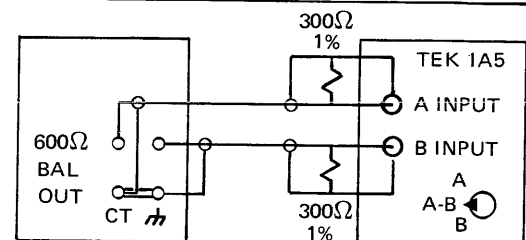

Figure 2-1. Test Set-up for 600Ω BAL
13. Connect the 600Ω balanced output connectors to a differential input oscilloscope (Tektronix 1A5 plug-in or equivalent) as shown in Figure 2-1.
When in the  $600\Omega$  balanced mode, the SYNC OUT connector must not be connected directly to an oscilloscope since the BNC shells are connected to one of the balanced output signals. Connecting directly to the scope without isolating with a pulse transformer will cause attenuator B (see Figure 2-1) to be shorted, thus, one-half of the output impedance ( $300\Omega$ ) will be lost. The amplitude will remain the same, but the result is a  $300\Omega$  single ended output.